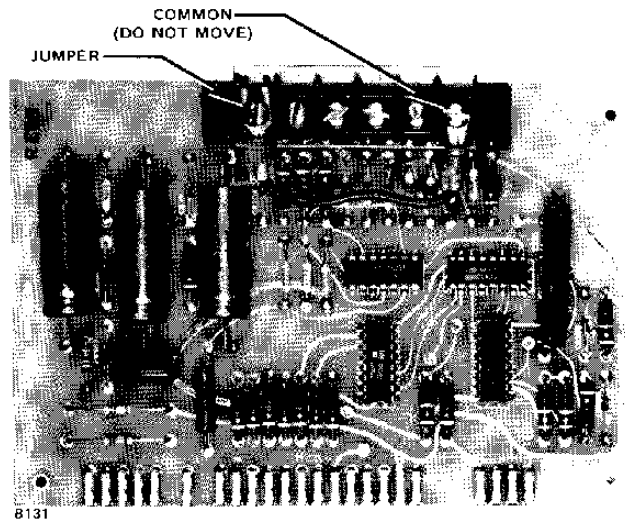

Figure 6—Detector Monitor Board
**Detector Monitor - Board No. 3**—The detector monitor board (Figure 6) contains the circuitry to continuously monitor the wiring between the detectors and the controller, to decode system faults (see Table 2), and to drive the right hand (fault identification) digital display. It also contains the detector "loop" selector terminal block (see "Installation" section).